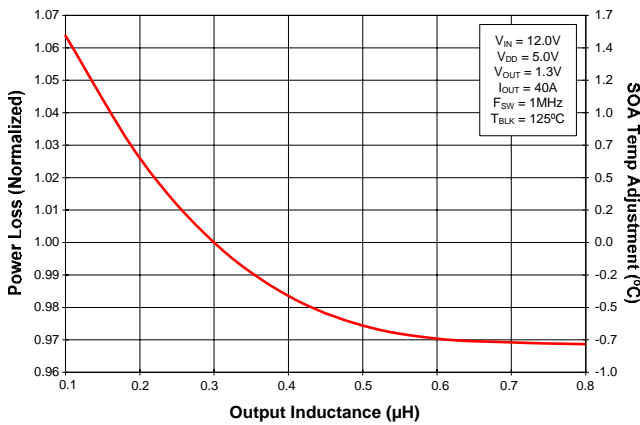

Figure 5 Normalized Power Loss vs. Inductance
| (Figure 5) | Normalized power loss for output inductor \approx 1.026 |
- (Figure 5) SOA temperature adjustment for output inductor $\approx 0.6^{\circ}\text{C}$